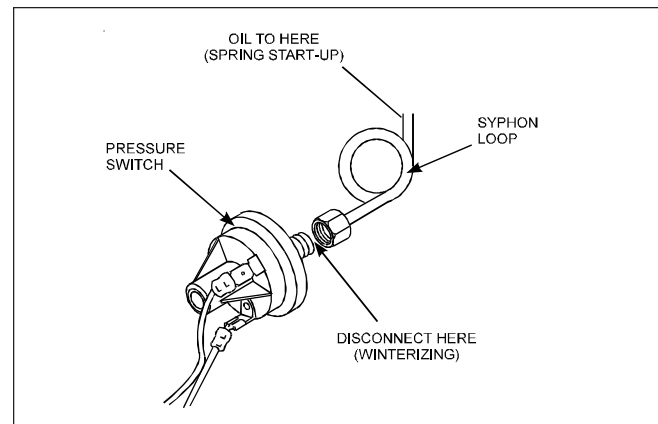

Figure 21. Pressure switch copper tubing.
8. Disconnect the pressure switch from the siphon loop (copper tubing) (see Figure 21).
1. Fill the siphon loop with approximately 5cc of SAE 50, non-detergent oil. Attach the copper tubing to the pressure switch (see Figure 21).